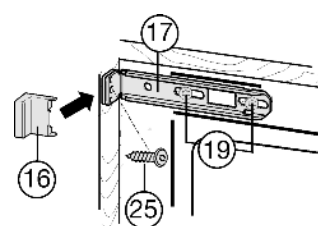

Fig. 23
- ▶ Loosen the screws *Fig. 23* (19) slightly.
- ▶ Secure the top mounting bracket *Fig. 23* (17) with a ø4x19 chipboard screw *Fig. 23* (25) to the unit wall.
- ▶ Break off the protruding end of the cover *Fig. 23* (16).
- ▶ Tighten the screws *Fig. 23* (19).
- ▶ Place cover *Fig. 23* (16) in position.